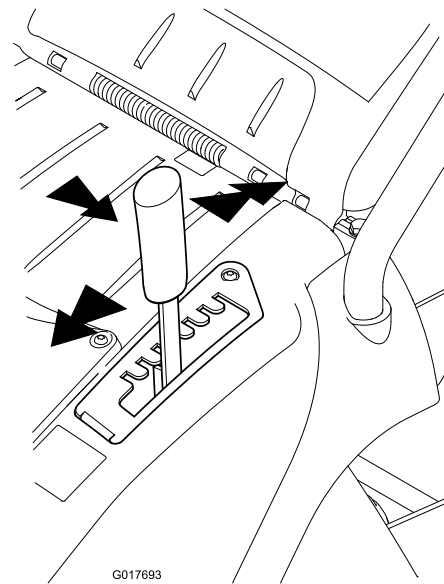

Figure 11
1. Grip the lever and pull sideways to disengage it from the locking notch (Figure 11).
2. Push it forwards to lower or pull it backwards to raise the height of cut (Figure 11).
3. Release the lever at the required position and ensure that it locks firmly into one of the eight setting notches (Figure 11).